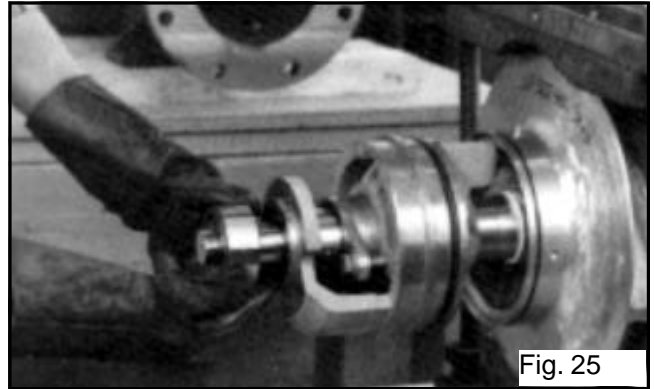

Fig. 25
- Using gloves, slide the heated bearing onto the shaft against the shaft shoulder (See Fig. 25).